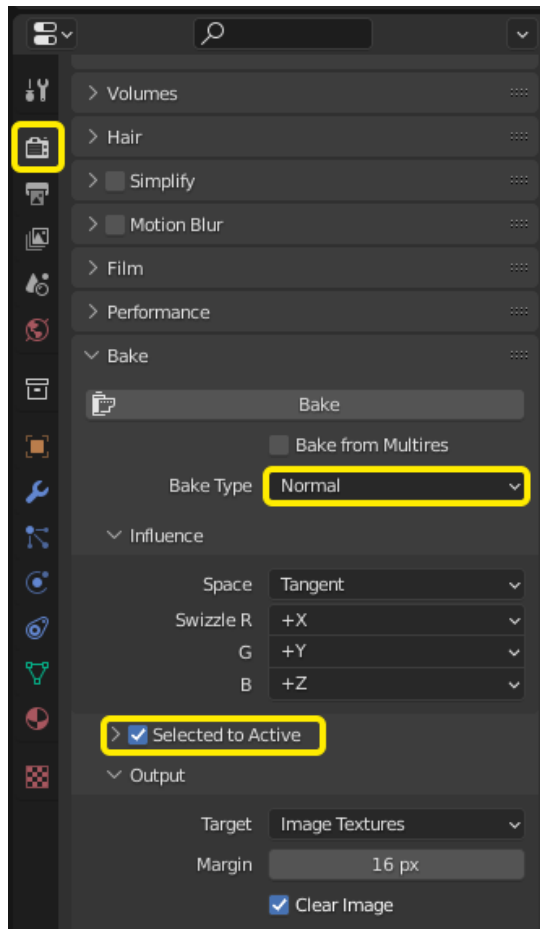

Figure 6.9 – Bake settings
- Open the **Bake** menu in the **Render Properties** tab. The menu will only appear in **Cycles** render mode. Set **Bake Type** to **Normal** and check the **Selected to Active** checkbox, as shown in *Figure 6.9*: